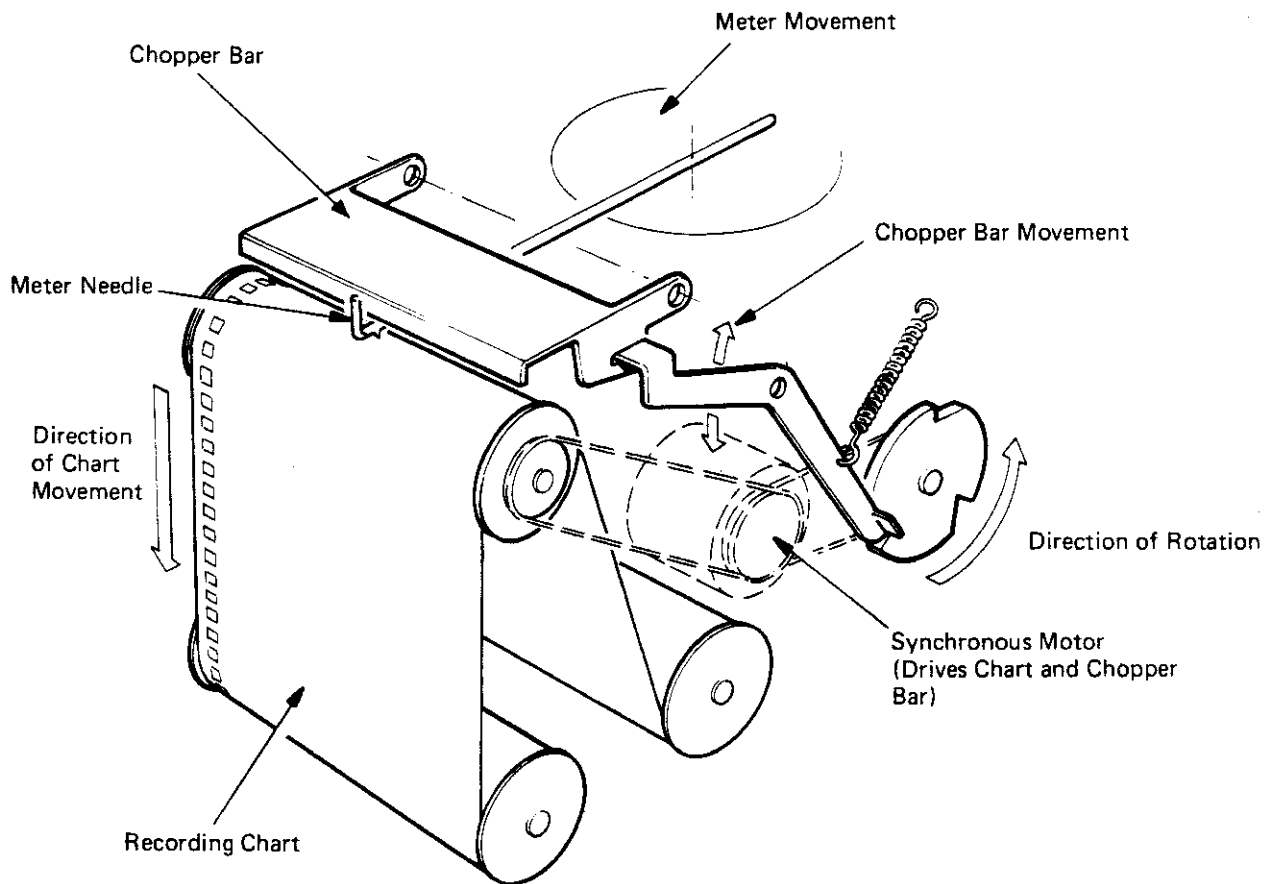

Fig. 1 CHART RECORDER ACTION (DIAGRAMMATIC)
6. Recording is achieved by means of a pressure sensitive wax coated paper chart producing a black trace. The pointer, under pressure of the chopper bar, removes a layer of wax thus leaving a black dot on the chart, successive dots thus producing a continuous trace. If the chart speed is high in relation to the chopping rate, a continuous trace may not be formed. The chopper bar is operated by the synchronous motor via a cam wheel and during the period that the bar is raised, the pointer is free to take up a position in accordance with the input. The chopping rate is once every 3 seconds. See fig. 1.